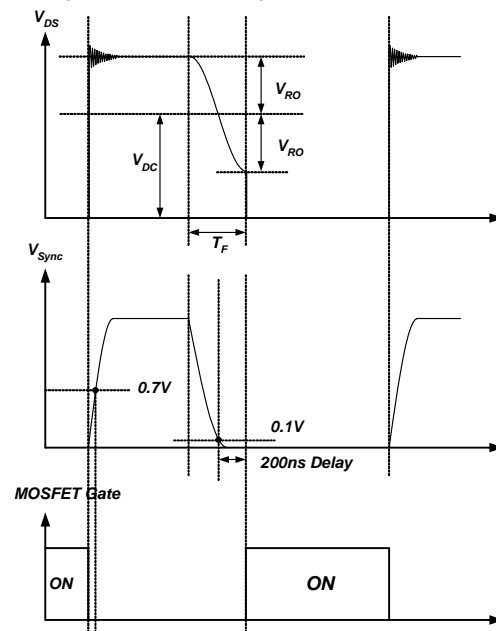

Figure 6. Quasi-Resonant Switching Waveforms
**3. Synchronization:** The FSQ-series employs a quasi-resonant switching technique to minimize the switching noise and loss. The basic waveforms of the quasi-resonant converter are shown in Figure 6. To minimize the MOSFET's switching loss, the MOSFET should be turned on when the drain voltage reaches its minimum value, as shown in Figure 6. The minimum drain voltage is indirectly detected by monitoring the  $V_{CC}$  winding voltage, as shown in Figure 6.